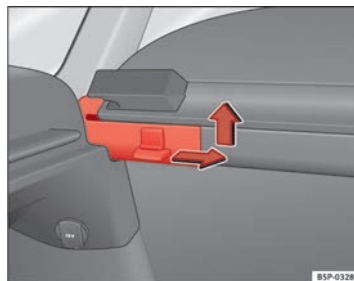

Fig. 126 Removing the rear shelf
- Press the side pin in the direction of the arrow, lift the cover and remove it ⇒ Fig. 126.